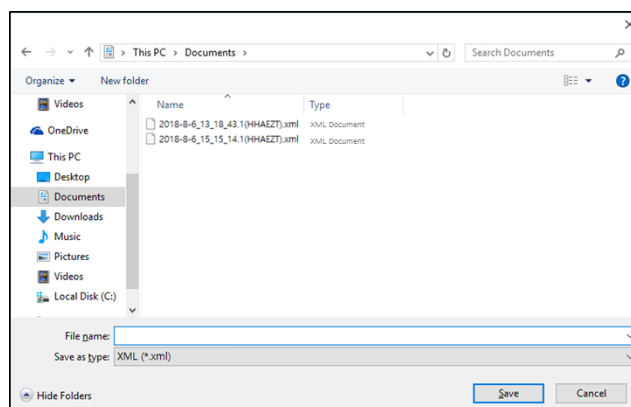

Figure 7.7.13. Save XML event example
3. The Measurement Report (Figure 7.7.13.) will appear in a separate window.